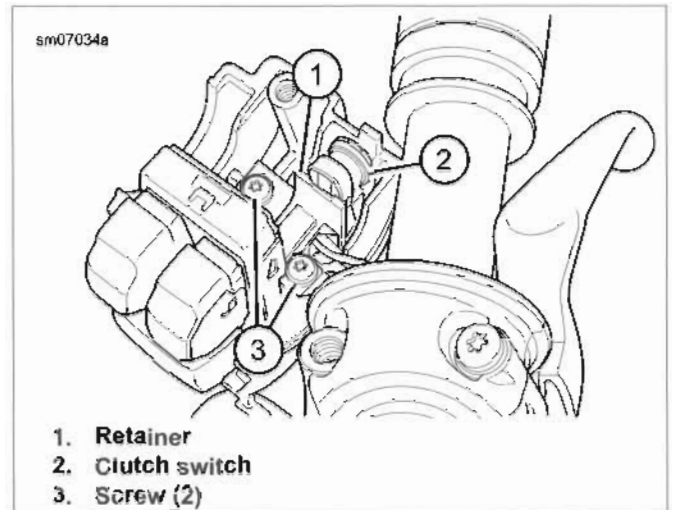

Figure 7-121. Left Handlebar Control Module and Clutch Switch Retainer
6. See Figure 7-121. Remove screws (3) and retainer (1).
7. Carefully remove clutch switch (2) and switch assembly from lower switch housing.
1. See Figure 7-121. Place switch assembly into position on lower switch housing and carefully install clutch switch (2).
2. See Figure 7-121. From inside the switch housing, remove screws (3) and retainer (1). Remove clutch switch (2) from housing.
8. See Figure 7-121. Install clutch switch (2) into housing. Install retainer (1) and screws (3). Tighten screws to 8-10 in-lbs (0.9-1.1 Nm).